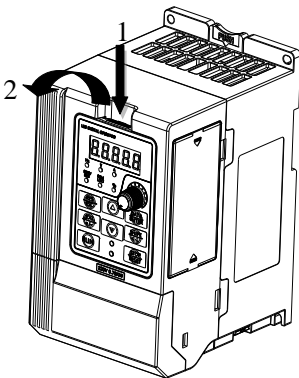

Fig.3-3 (a) Remove keypad
- Assemble of Terminal Cover: See following Figure: 3-3(d) Place the upper buckle of the terminal cover in the slot of upper housing in Direction 1, and then press the two lower buckle of terminal cover in Direction 2 until it clicks into right place of upper housing. , then Tighten the screws as shown in Fig.3-3